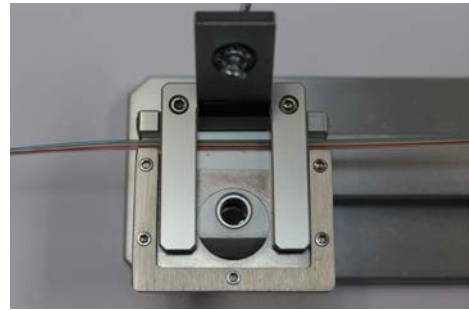

Figure 9
Note: The 48 fiber bundles nylon subunits do not come ribbonized, we recommend organizing the four subunits and ribbonizing them using the fiber arrangement tool according to the FTA-02 manual and video listed on our website before insertion into furcation tube subunit. See Figure 9.
8.5 Complete the FT48FBK Field Termination Kit assembly by snapping Cover Unit onto Base Unit. **See Figure 9.**
8.2 48 Fiber ABF bundles can be made into four 12 fiber ribbons subunits. Since the 48 fiber bundles do not come ribbonized, we recommend organizing the four subunits and ribbonize them using the fiber arrangement tool according to the FTA-02 manual and video listed on our website. **See Figure 9.**